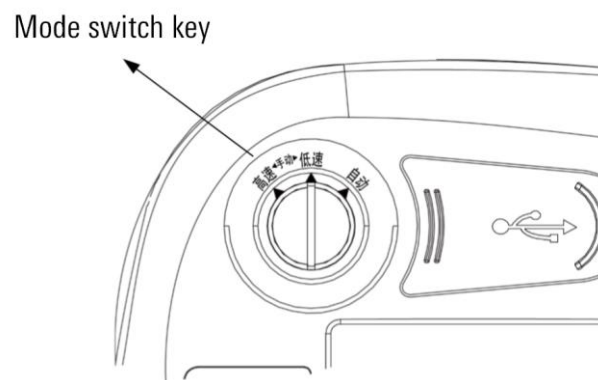

Figure 4-8 Mode switching key
Step1. The mode switch key shown in Figure 4-8 is set to manual low speed.